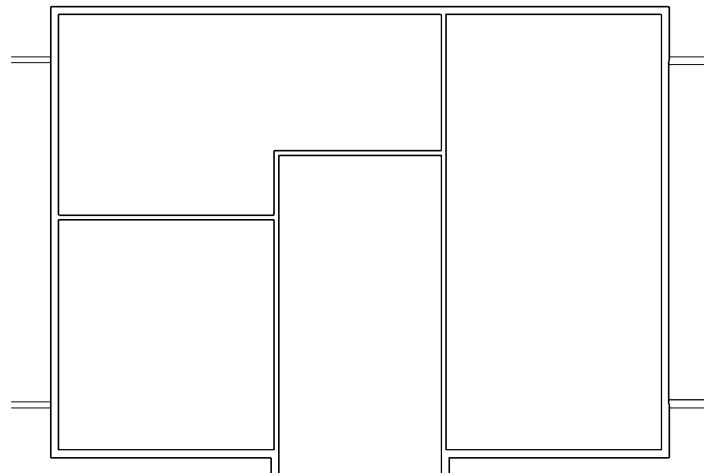

FIGURE 6-2.3 Second Floor: walls copied, doors deleted
You should now see the four walls in your *Second Floor Plan* view (Figure 6-2.3).
- e. Notice that one of the interior walls from Figure 6-2.3 gets extended and another gets trimmed; the walls previously created are shaded just for this image (Figure 6-2.4).